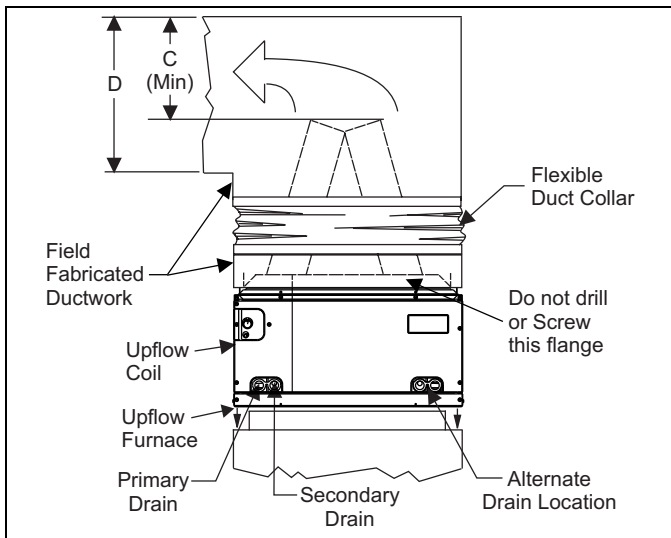

FIGURE 6: PC Series Upflow Coil Installation
1. Position the coil casing over the furnace opening as shown in Figure 6.
*Do not drill any holes or drive any screws into the front duct flange on the coil in order to prevent damaging coil tubing. See Figure 6.*
Dimension "C" should be at least 2/3 of dimension "D". See Figure 6